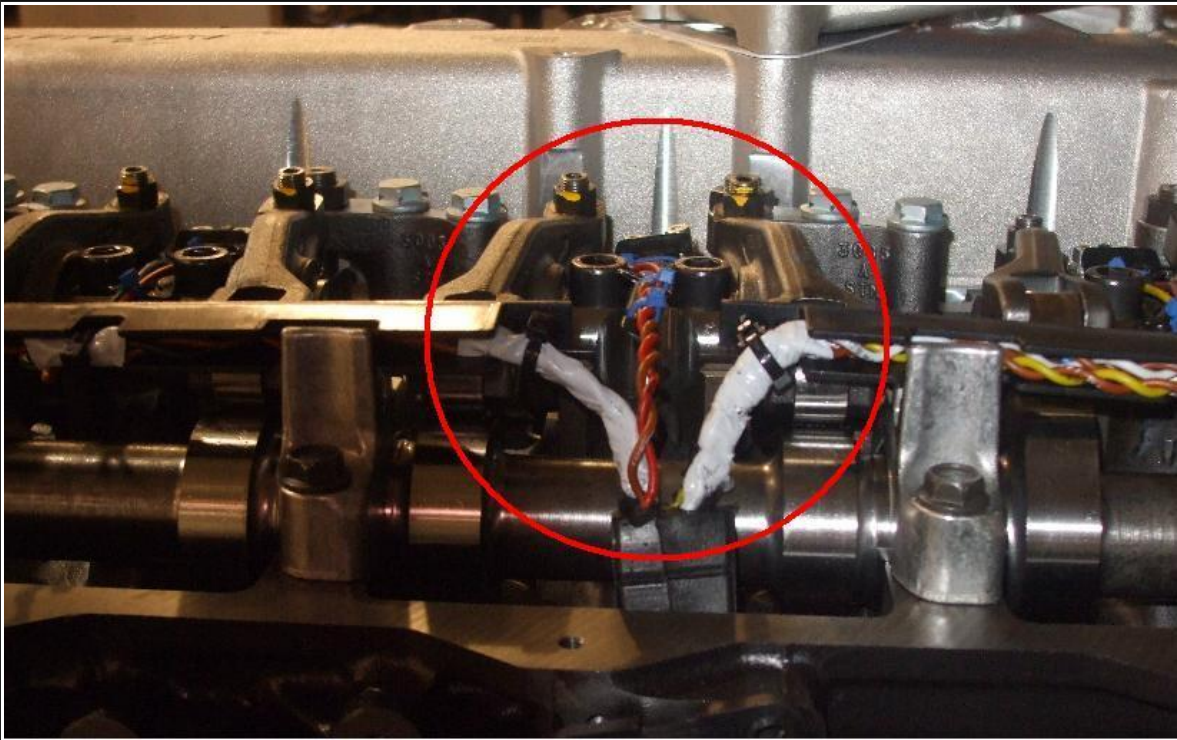
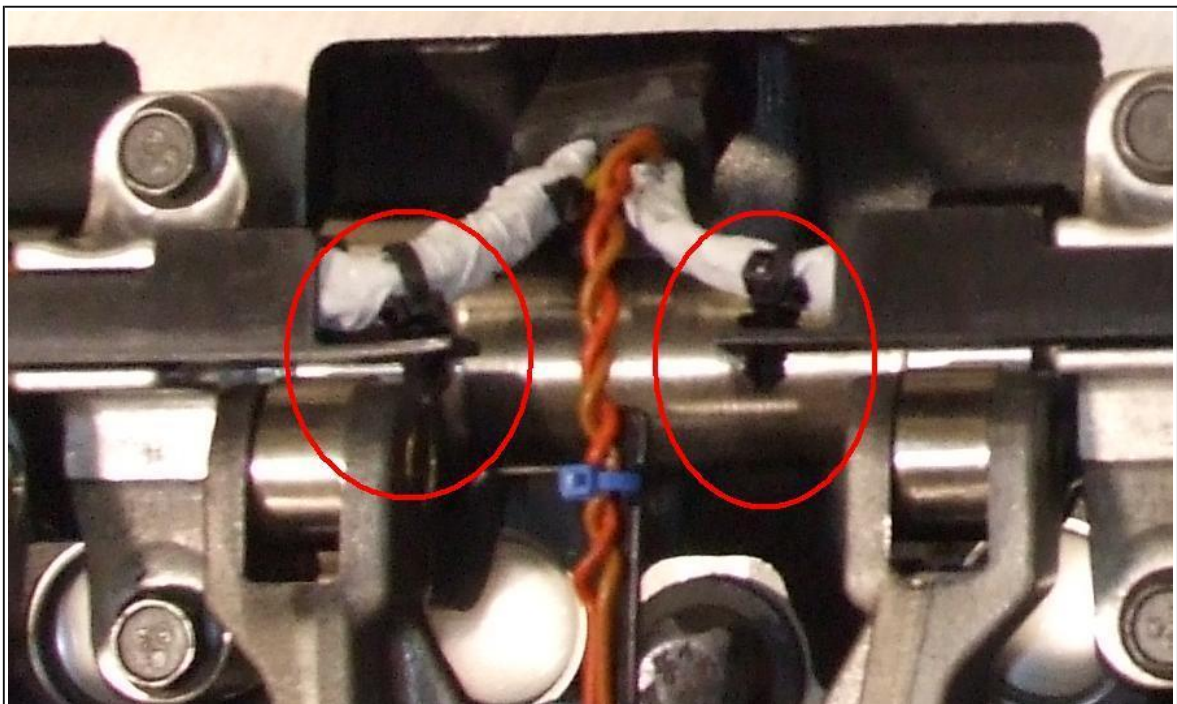

Figure 3, Plastic Tray Over Hang
Figure 4, Push Lock Clips
2) The plastic trays will hang over the holding brackets (Figure 3) and the harness should be zip tied to the push lock clips (Figure 4). Make sure the harness is routed away from the valve train